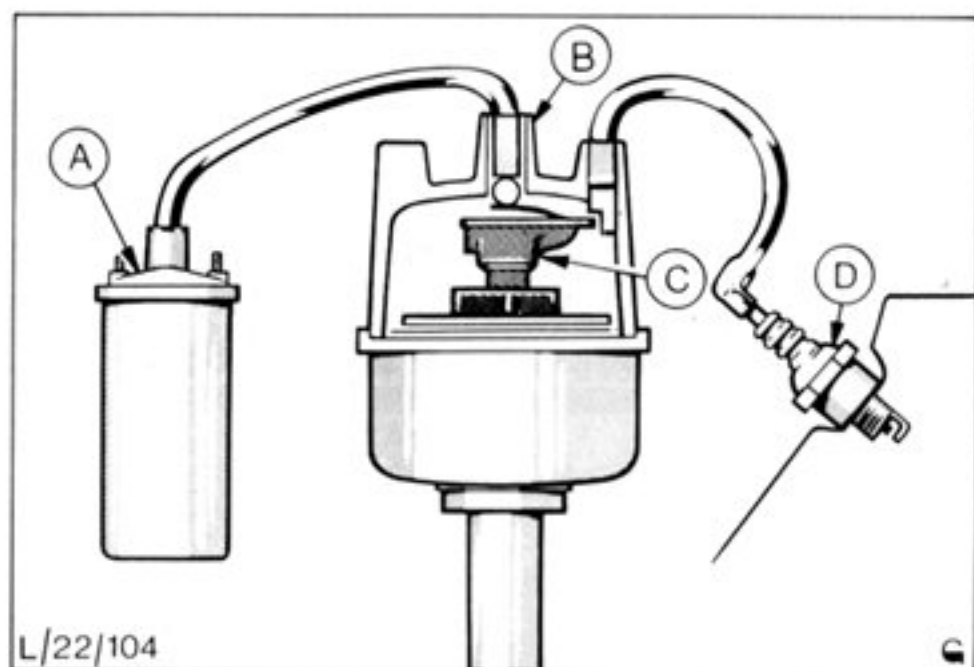

Fig.10. Schematic view of HT circuit.
- (c) To distribute the high tension voltage produced by the coil to the appropriate cylinder, Fig.10.